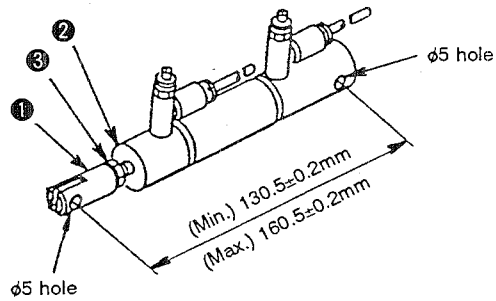

Fig. 5-22-1
At the time, the intermediate presser lifting stroke is set to 20 mm (at the time of delivery). (Fig. 5-22-1)
<ul style="list-style-type: none"> ○ Loosen shaft nut ③ of intermediate presser cylinder ②, and adjust the screwing depth of the intermediate cylinder knuckle ① referring to the "STANDARD ADJUSTMENT (22)." After making the adjustment, securely tighten nut ③ and intermediate cylinder knuckle ①. (Fig. 5-22-1) 	<ul style="list-style-type: none"> ○ When the distance exceeds 130.5 ± 0.2 mm: The intermediate presser lifting stroke is less than 20 mm. ○ When the distance is less than 130.5 ± 0.2 mm: The intermediate presser will fail to be lifted. The round cornered section in the top end of the intermediate presser bar may enter the intermediate presser bar lower bushing while the intermediate presser goes up, resulting in an oil leak.